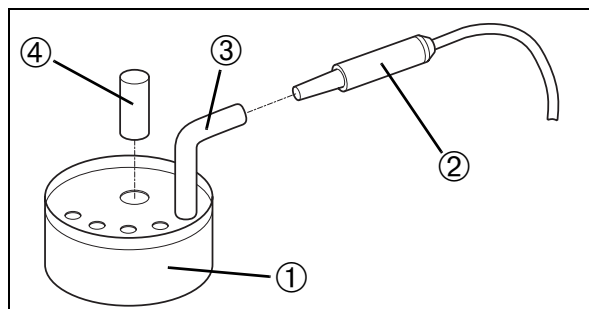

Fig. 87
- Place the cleaning pot ① (Fig. 87) on the tray rack.
- Then place all the water-bearing drives (turbine coupling, motor, tartar remover) apart from the multi-way syringes into the L-shaped adapters intended for this purpose ③ (Fig. 87) in the cleaning pot.